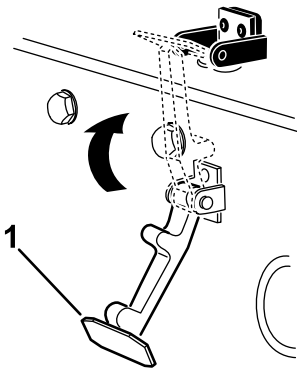

Figure 36
7. Hook the latch onto the hood-latch bracket (Figure 36).